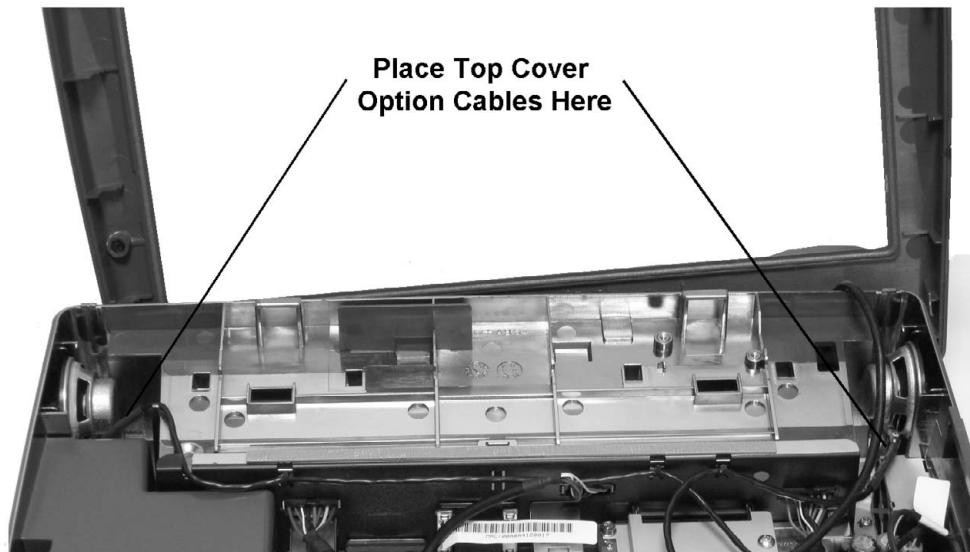

Figure 3-43: Top Cover Option Cable Routing
2. If an optional finger print reader or other device is installed in the top cover, make sure the cable enters on the right or left to avoid interference with the LCD/Touchscreen Assembly as shown in Figure 3-43. The option cable can be attached to J29.